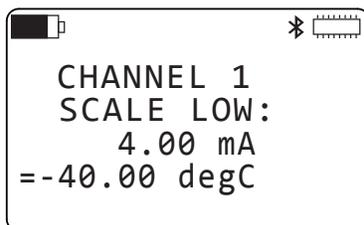

Figure 11. Scale Low screen
- This screen displays the low input value, as determined by the input type. For example, if the input type is set to 4-20 mA, the displayed value is 4.00 mA, as shown in Figure 11. Below this field is the value to which the input setting will scale. This is expressed in the measurement units defined in the Units screen. To change this setting, press  $\leftarrow$  once to enter selection mode, then press  $\leftarrow$  a second time to begin edit mode.
In Figure 11 we have set the low scale measurement value to “-40.00 degC.” This means that when channel 1 receives 4mA input from the probe, the LCD will display this data as “-40 degC.”